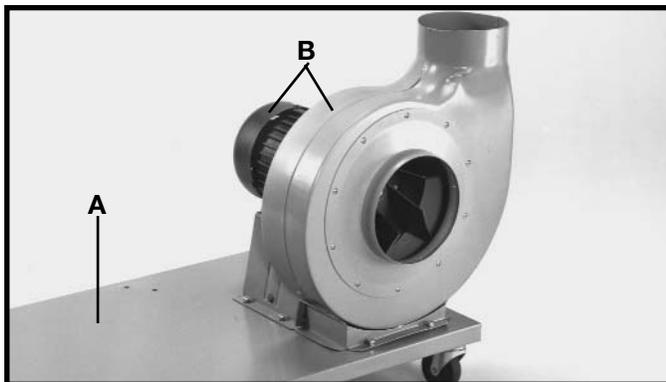

Fig. 7
2. Fig. 7, illustrates the blower and motor assembly (B) fastened to base (A).